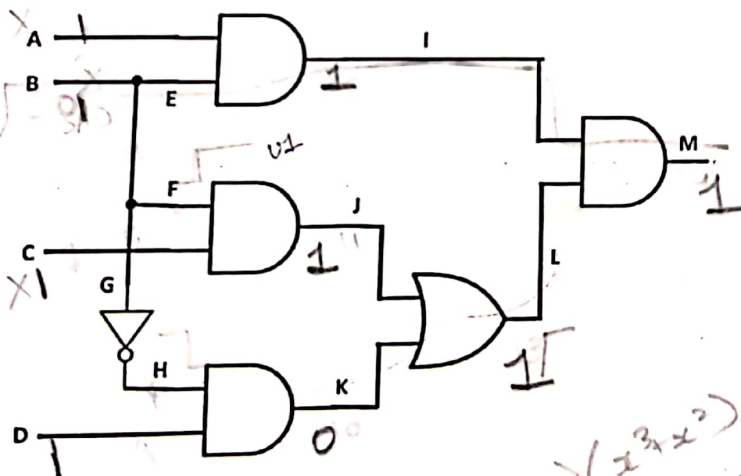

Figure 3
- How many Path Delay Faults and Transition Delay Faults are in the circuit shown in Figure 3.